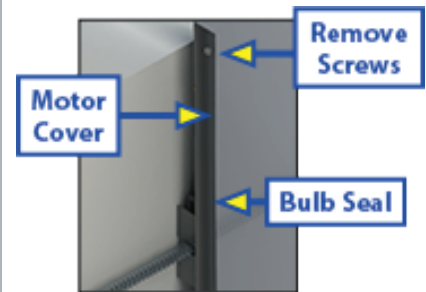

Fig. 6
2. If applicable, use a Phillips head screwdriver to remove the top screw from the bulb seal at the top of the vertical channel (**Fig. 6**).
3. Pull down the bulb seal (**Fig. 6**) and remove the motor cover (**Fig. 6**). The motor cover may stick to the bulb seal.